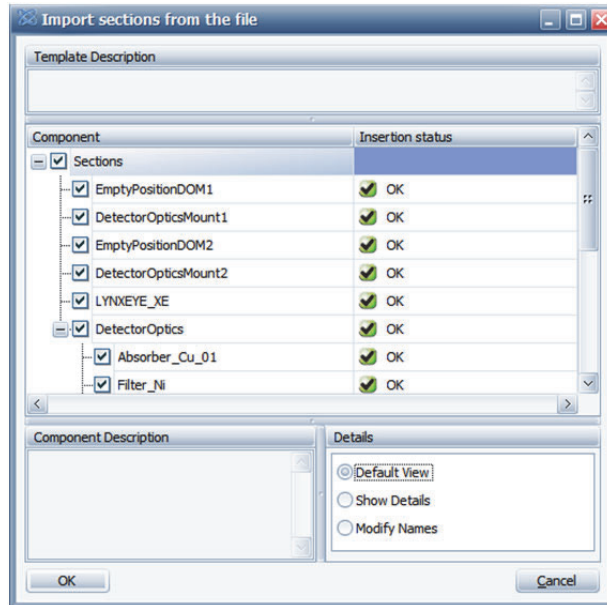

Figure 6.2: Template insert in CONFIGURATION plugin.
2. Insert a LYNXEYE XE template of your choice, depending on your x-ray wavelength and application type (High –energy- Resolution or High Count Rate), e.g. 'LYNXEYE XE_Diff-Align_Cu-Cr-Co-Fe-Tube.bfscn' (Figure 6.2).